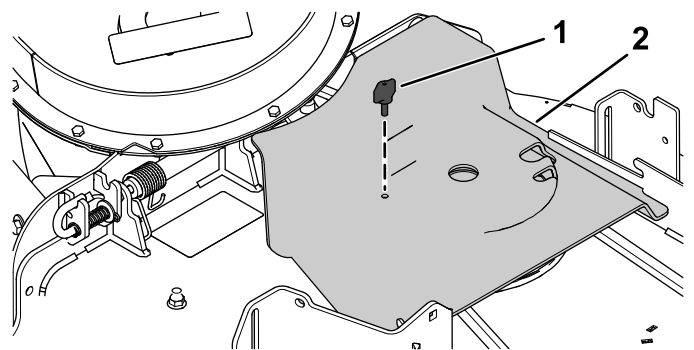

Figure 31
5. Install the blower-belt cover over the blower belt and secure the blower-belt cover with the belt knob (Figure 31).